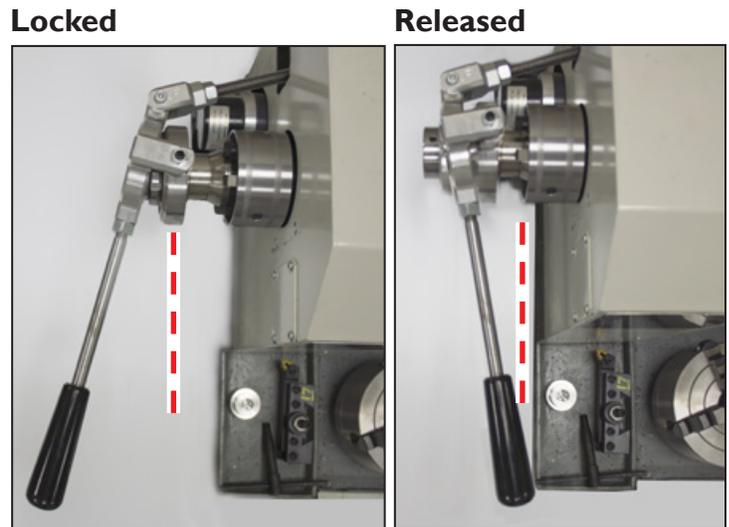

Figure 20
26. Move the collet handle back and forth between the locked position (away from the headstock) and the released position (toward the headstock). Ensure handle is past centerline in either position (see **Figure 20**).
**IMPORTANT!** If collet handle is not past center in the locked position (see **Figure 20**), adjust rod length until proper alignment is achieved.
1. With a piece of material inserted in the collet, ensure the Collet Closer is in the released position (see **Figure 20**), with the collet handle toward the headstock.